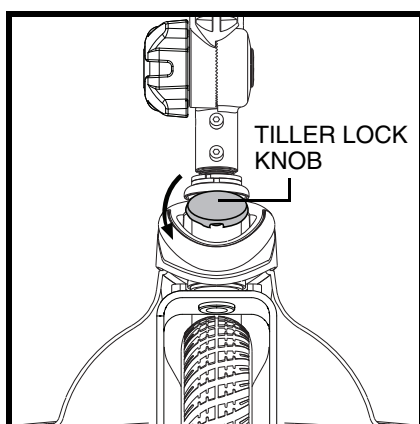

Figure 20. Tiller Lock Knob (Unlocked)
9. Unlock the front wheel by turning the tiller lock knob 90° counterclockwise. **See figure 20.**